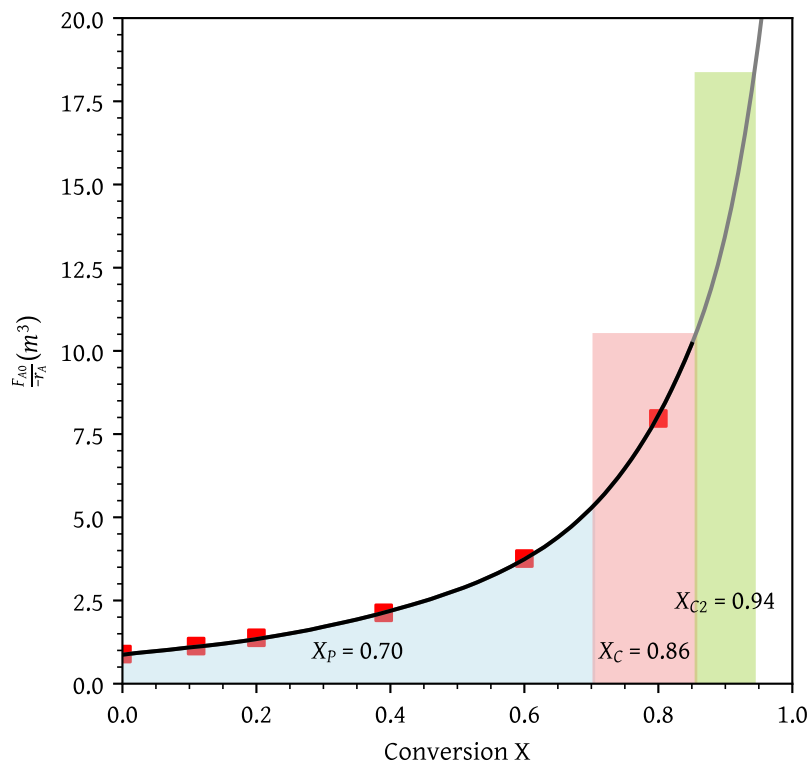

Figure 10: Conversion from a PFR followed by two CSTRs
- (h) A PFR followed by two CSTRs (Figure 10). Is this arrangement a good arrangement or is there a better one?